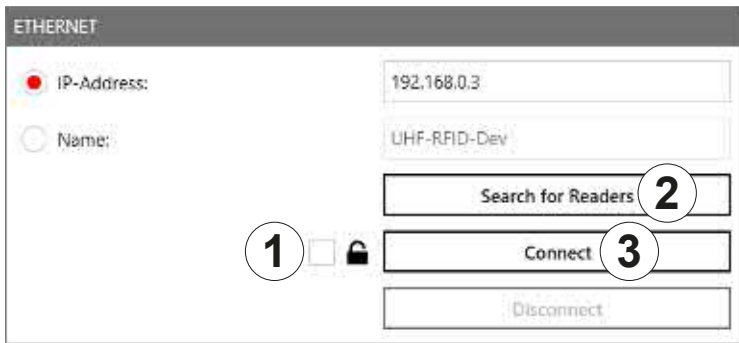

Fig. 34: Ethernet section
1. In the Ethernet section, click the box next to the lock symbol (① in Fig. 34).
2. Click **Search for Readers** (②) or **Connect** (③).